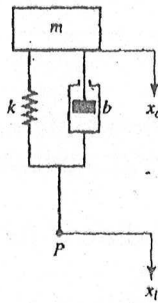

Fig. 5(c)
- (c) Fig. 5(c) shows a simplified schematic diagram of an automobile suspension system. Assume that the motion x_i at the point P is the input to the system and vertical motion x_o of the body is the output; obtain the transfer function $x_o(s)/x_i(s)$. Displacement x_o is measured from the equilibrium position in the absence of input x_i .